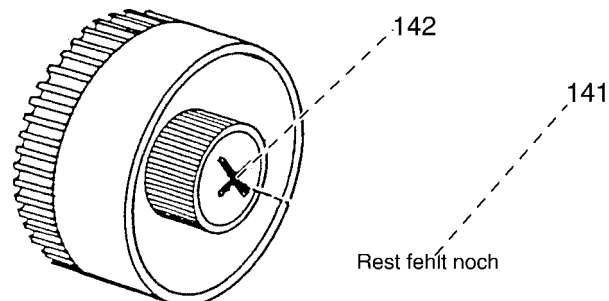

Fig. 118
- Remove handwheel screw 142 (fig. 118).